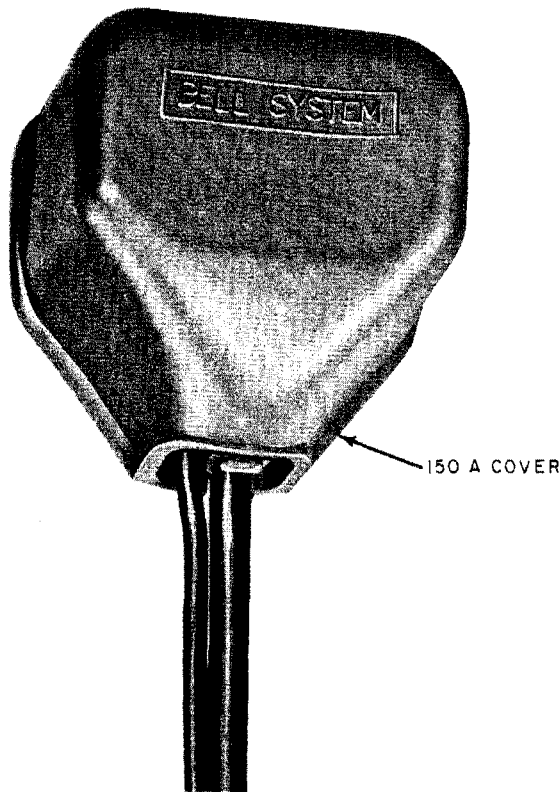

Fig. 10—Protector With Cover in Place
5.06 Cover the protector with a 150A Cover as illustrated in Fig. 10.